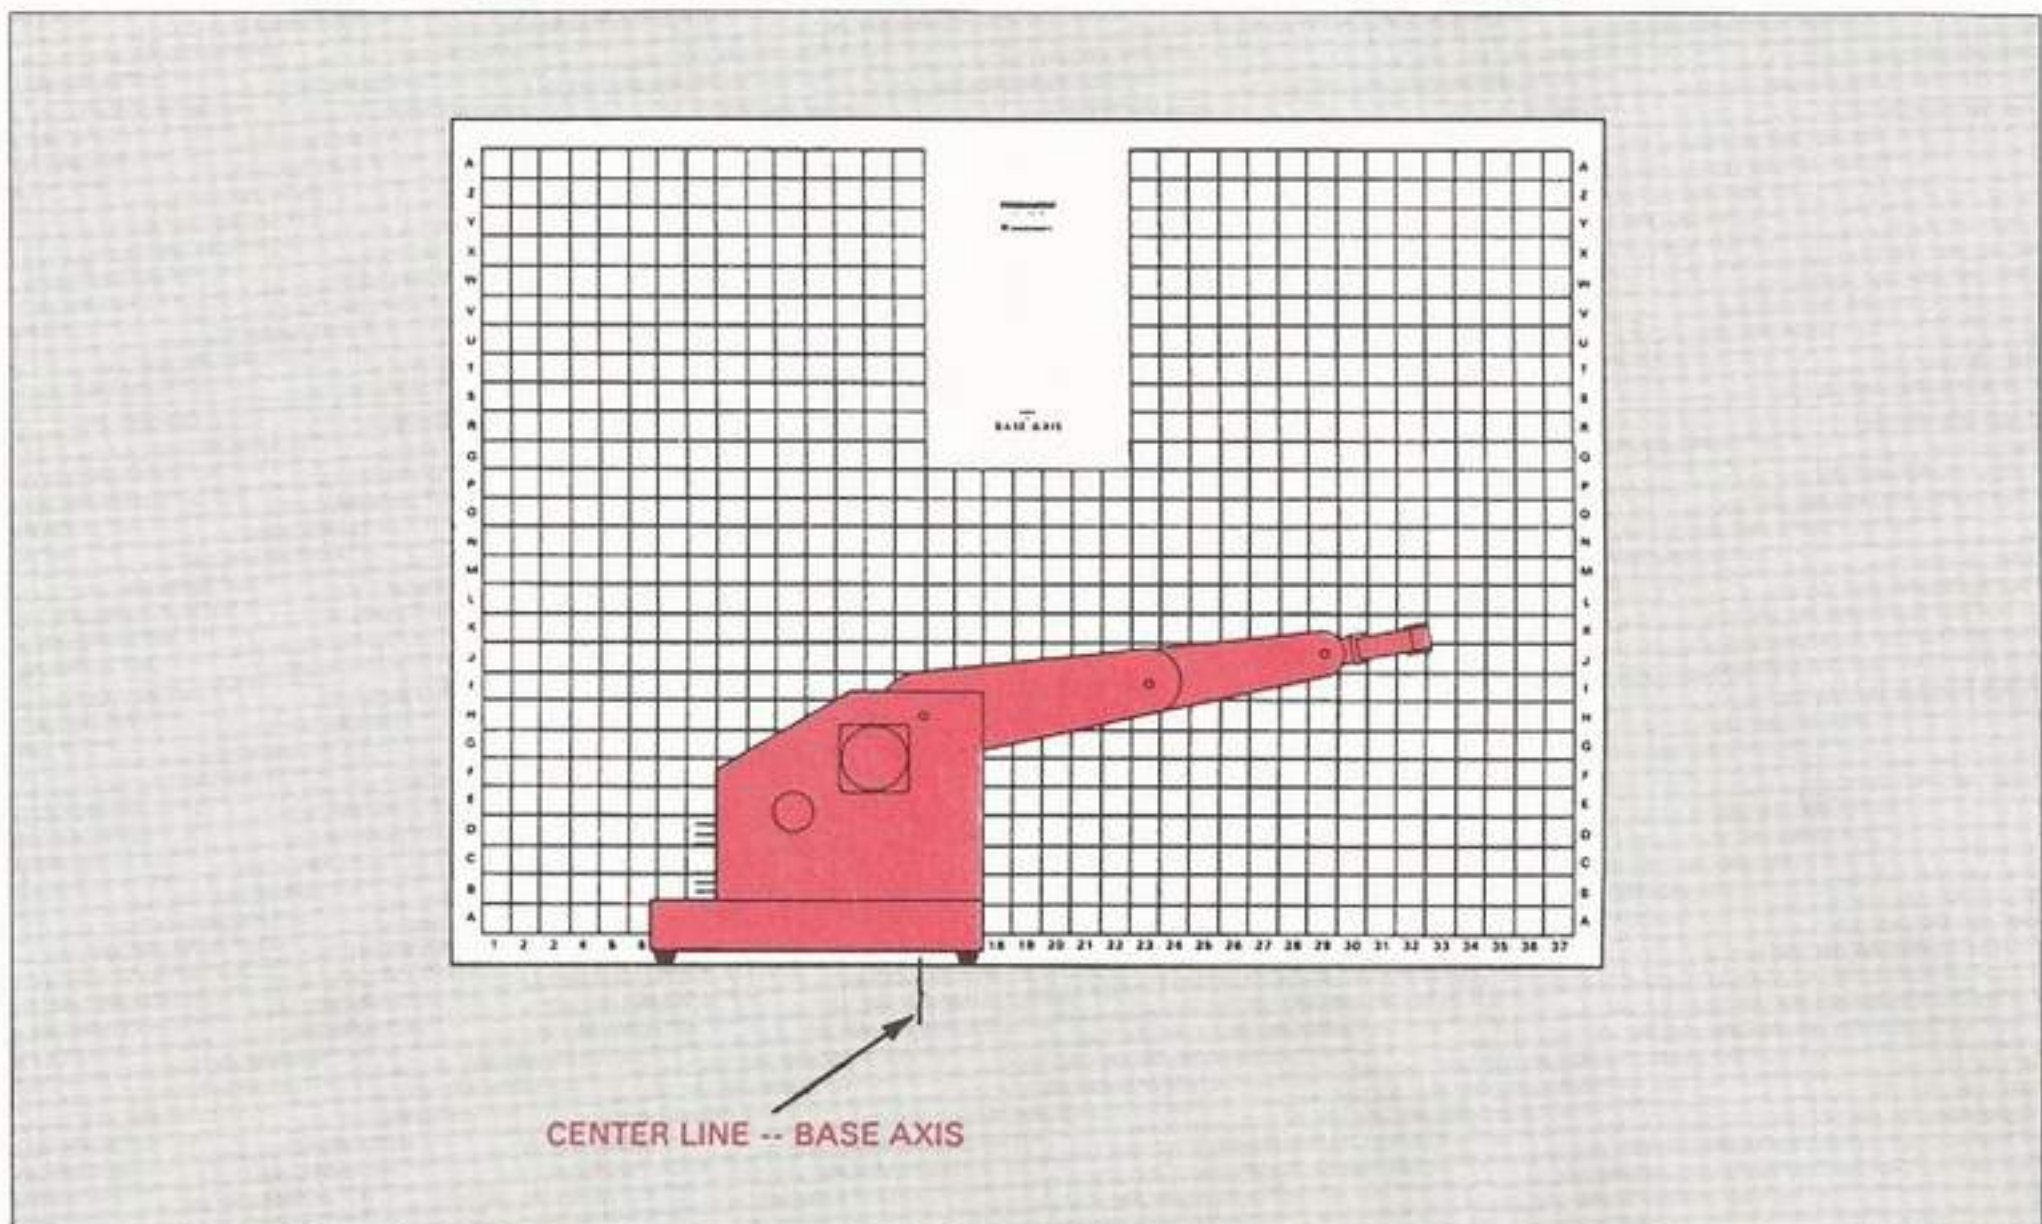

Fig. 80: Center Line Placement—Vertical Work Envelope
- g. Place the grid sheet behind and parallel to the Pro-Arm, and align the vertical grid line between numbers 15 and 16 with the center line of the base axis, as shown in Fig. 80.